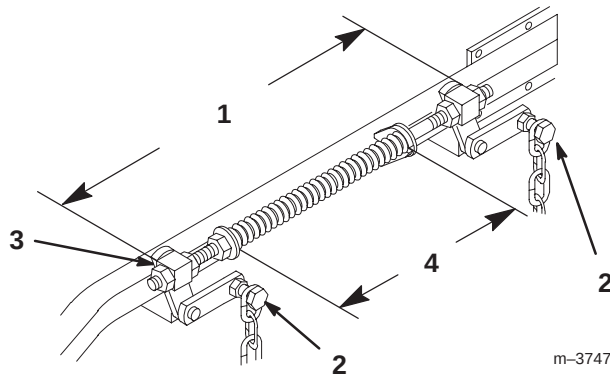

Figure 60
6. Loosen the four top chain bolts in slots. Check the length of the rod/swivel assemblies. Distance from outside of rear swivel to outside of front swivel should be 19-17/32 in. (496 mm) (Fig. 60). Make sure that all four swivels move freely in holes.
2. Springs are compressed so the distance between the two large washers should be 11 in. (279 mm) (Fig. 60).
3. Adjust by turning nut in front of each spring (Fig. 60). Clockwise will shorten spring; counter-clockwise will lengthen spring.